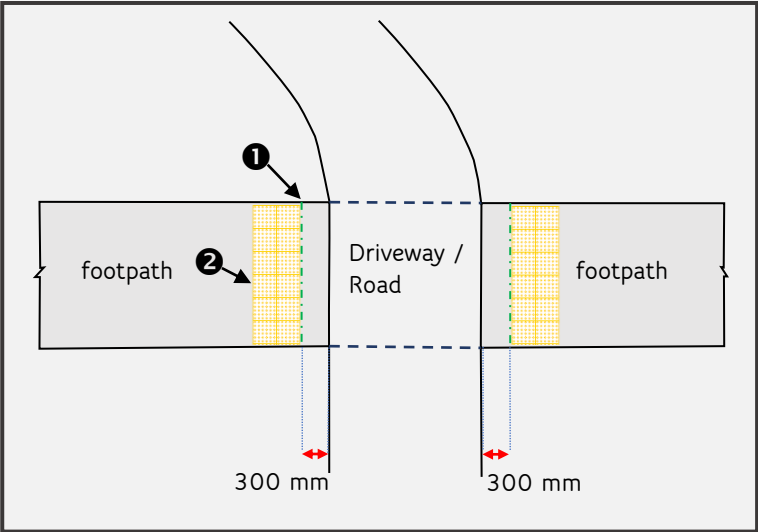

Figure 1 – Straight Driveway / Road
- 2 Place 2 rows of tactile indicators touching this imaginary line as shown in Figure 1.